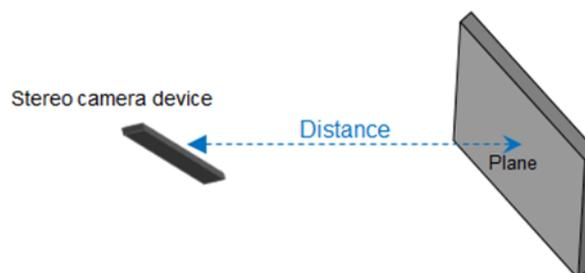

FIG 3-20. POSITION BETWEEN DEPTH CAMERA AND WALL
- **Angle X / Y:** This is the angle between the wall and the line of projection from the camera, refer to Figure 3-20.